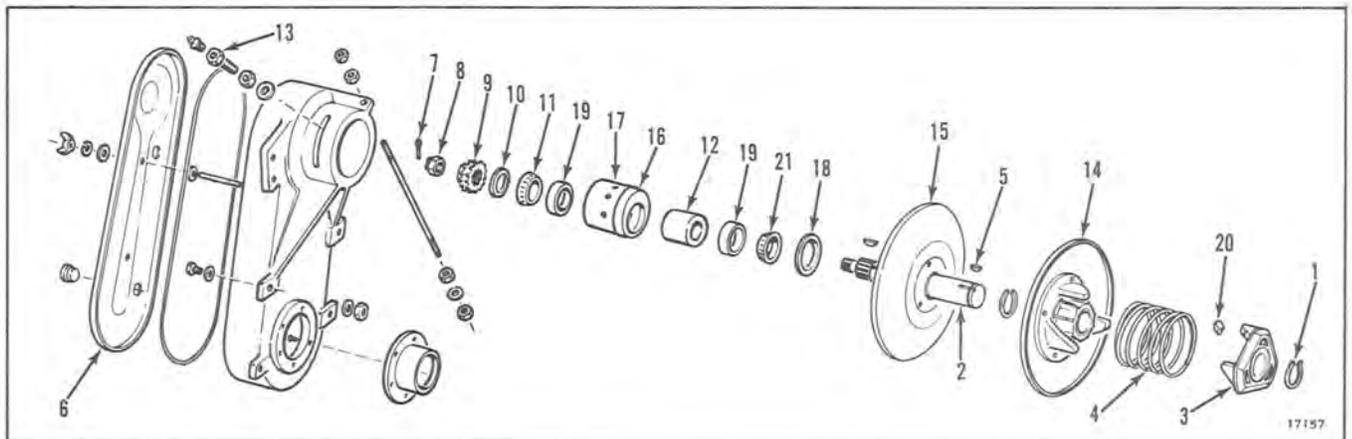

Figure 10-16
18. See Figure 10-16 for following steps. Remove retaining ring (1) from fixed face and shaft (15).
19. Remove end cap (3), spring (4) and key (5).
1. Assemble movable half of sheave (see Figure 10-16 (1), (3), (4), (14) and (20) to shaft.